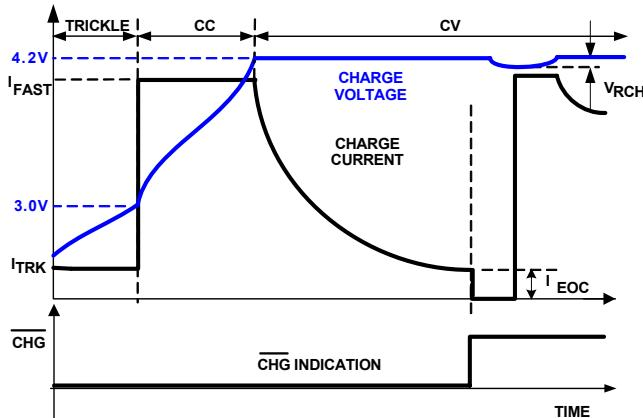

FIGURE 29. TYPICAL CHARGING CYCLE FOR CONT = L
The charger function is similar to other Li-ion battery chargers, i.e., it charges the battery at a constant current (CC) or a constant voltage (CV) depending on the battery terminal voltage. The constant current I_{FAST} is set by the external resistor R_{IREF} . Depending on the combination of the AC/USB and the MODE pin status, the actual charge current may be reduced by the input current limit. When the battery voltage reaches the final voltage of 4.2V, the charger enters the CV mode and regulates the battery voltage at 4.2V to fully charge the battery without the risk of overcharging. Upon reaching an end-of-charge (EOC) current, the CHG will turn to high impedance to indicate a charge complete state and if CONT is low, Q2 will be turned off to terminate charging. Figure 29 shows the typical charge profile with the EOC recharge events when CONT is low.